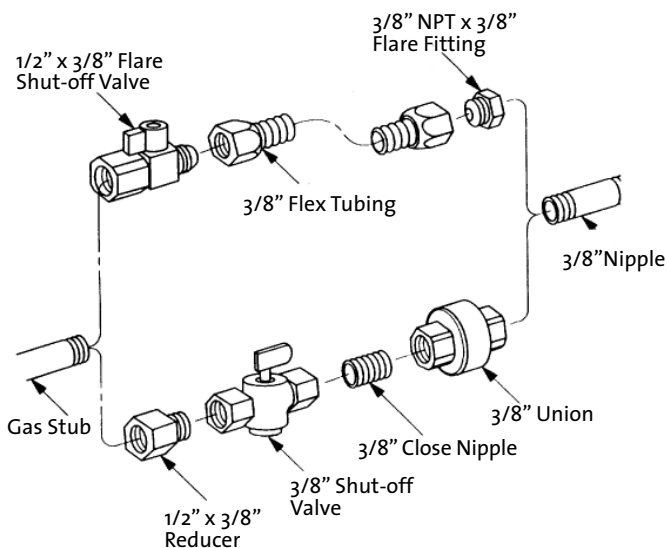

Figure 8.1. Gas supply line connection alternatives.
- All codes require a gas shut-off valve (gas cock) and union, to be installed in the supply line, and in the same room as the appliance. This allows for the disconnection of the stove for servicing and maintenance. See fig. 8.1.